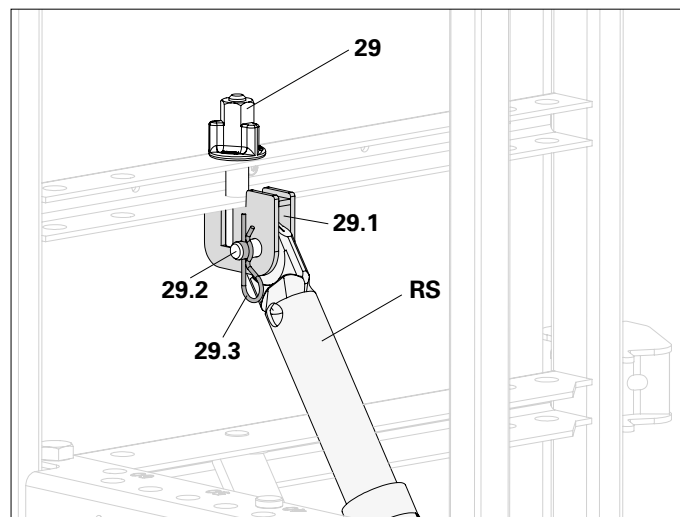

Fig. A7.02
Connect Push-Pull Prop (RS) and connection lugs (29.1) with bolts (29.2) and cotter pins (29.3). (Fig. A7.02)